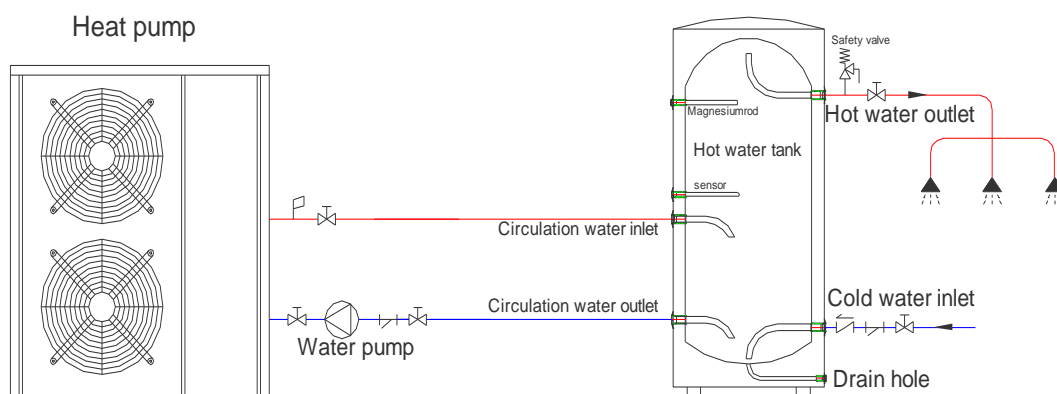

Figure 5
- 1) System installation diagram to see **Figure 5**.